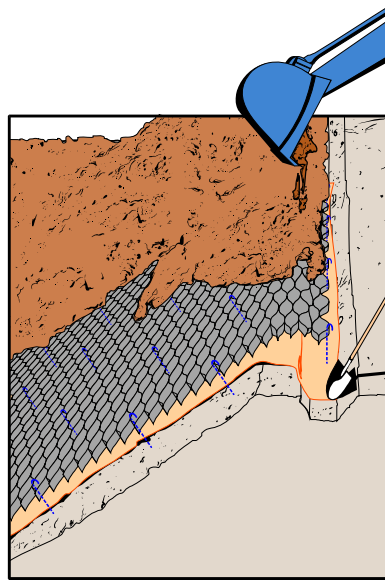
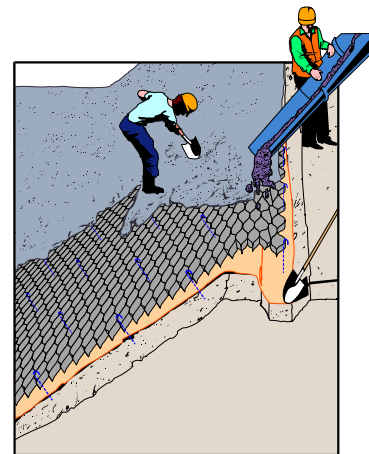

Figure 19 Excavator
Figure 23 Chute
- A range of equipment types can be used as illustrated in Figure 19– Figure 23.